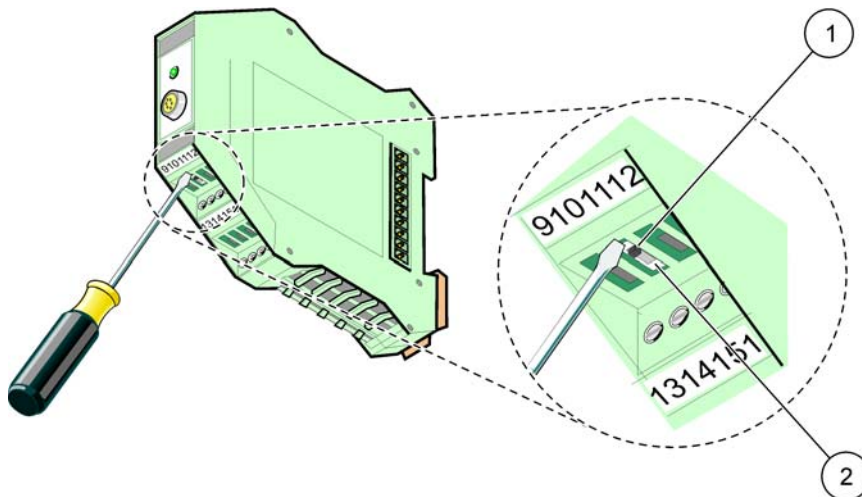

Figure 76 Switching the network termination
1. Deactivate the switch (network termination) on the module (Figure 76).